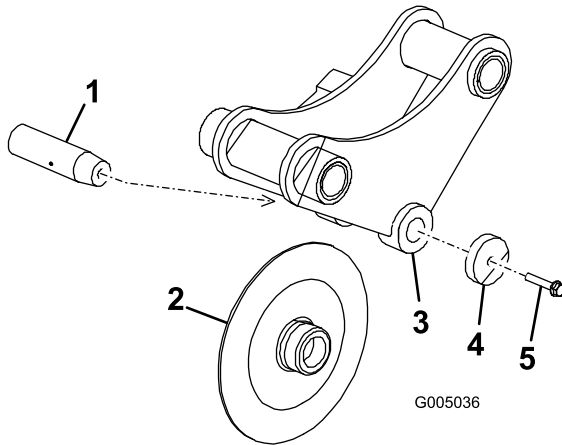

Figure 16
3. Back out the coulter-pin screw about 1.3 cm (0.5 inch), then strike it several times with a hammer to loosen the pin (Figure 16).
4. Completely remove the coulter-pin screw, washer, coulter, and coulter pin (Figure 16).
5. Put the new coulter into the coulter bracket (Figure 16).
6. Slide the coulter pin through the bracket and coulter and secure it with the coulter-pin screw and washer (Figure 16).